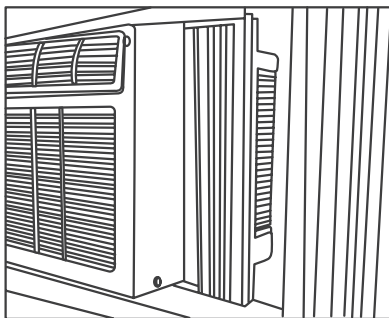
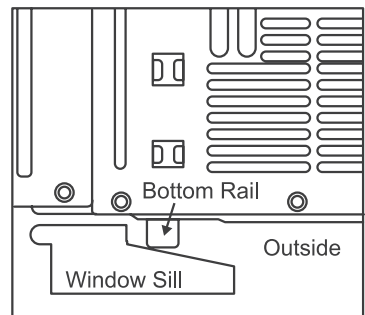

Fig.6
Fig.7
- Place the air conditioner on the sill with the bottommounting rail against its back edge.Center the air conditioner and close the window securely behind the top mounting rail.The air conditioner should be 3° slightly tilted to the outside area. Use a level, about a 1/3 bubble will be the correct case slant to the outside. (See FIG.6 & FIG.7) (It is suggested to keep a downward angle to let accumulated rain water drain out from the back side of the unit bottom.)